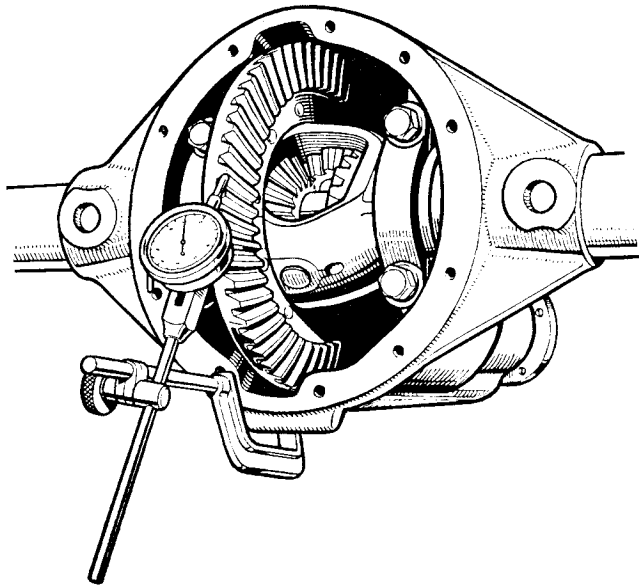

Fig. 17. Checking backlash between gears.
- (11) Remount the dial indicator on the gear carrier housing with the button against one of the drive gear teeth, as nearly in line with the direction of tooth travel as possible (see Fig. 17). Move the drive gear by hand to check the backlash which should be as etched on the gear. If the backlash is not in accordance with the specification, transfer the necessary shims from one side of the differential case to the other to obtain the desired setting. To increase backlash, remove shims from the drive gear side of the differential and install on the